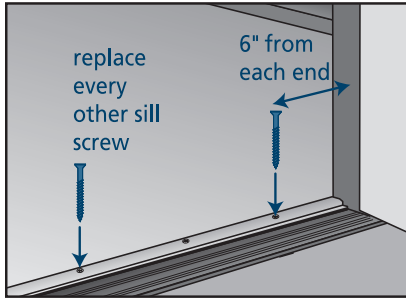

Fig. 29
- If door has a **traditional threshold**, secure as follows (**Fig. 29**):